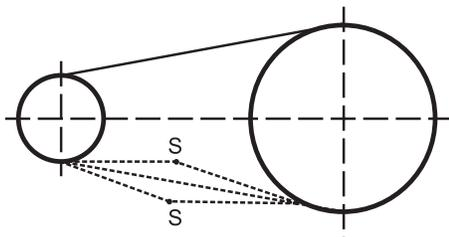

Fig. 5. Chain tension.
Generally, the slack of a roller chain should be on the lower side (see fig. 5). Adequate slack (SS) is about 4 percent of the span for normal drives. In the following cases, the slack should be about 2 percent of the span: